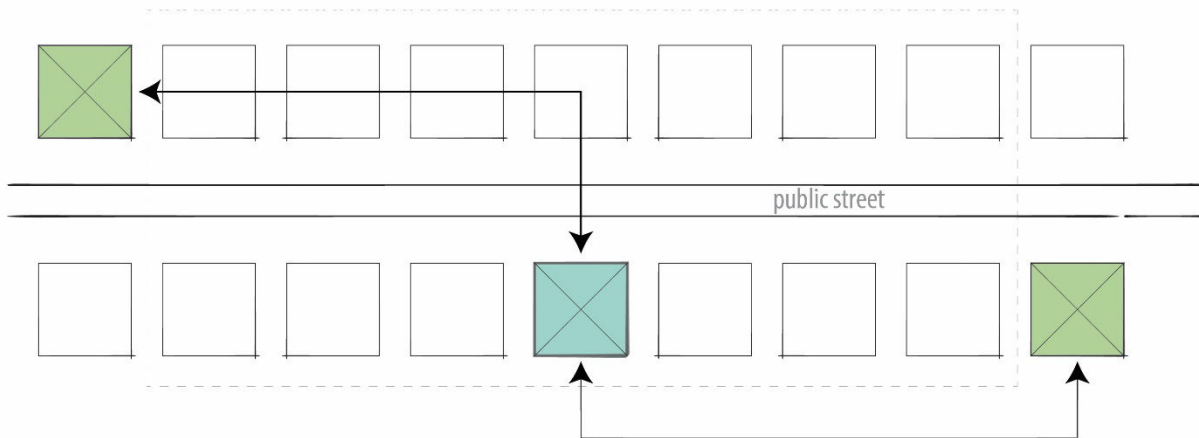

FIGURE 4: Minimum permitted spacing for repetition of house designs.
- 11.20.2. Three (3) adjacent lots on the same side or opposite side of the street must separate a repeat house design (see Figure 4).
- 11.20.4. House design repetition. The example spacing in Figure 4 indicates the closest location for an identical house design on the same side and across the street. No exceptions will be made.